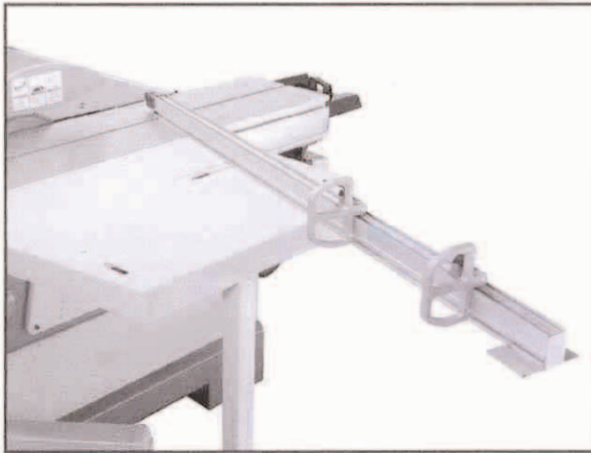

Figure 62. Fence set-up for angled cuts.
2. Install the fence as shown in **Figures 62 & 63** for angled cuts.